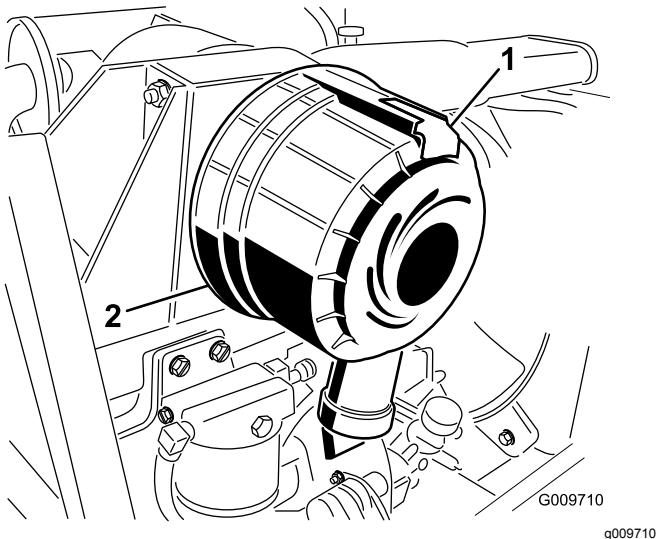

Figure 50
1. Pull the latch outward and rotate the air-cleaner cover counterclockwise (Figure 50).